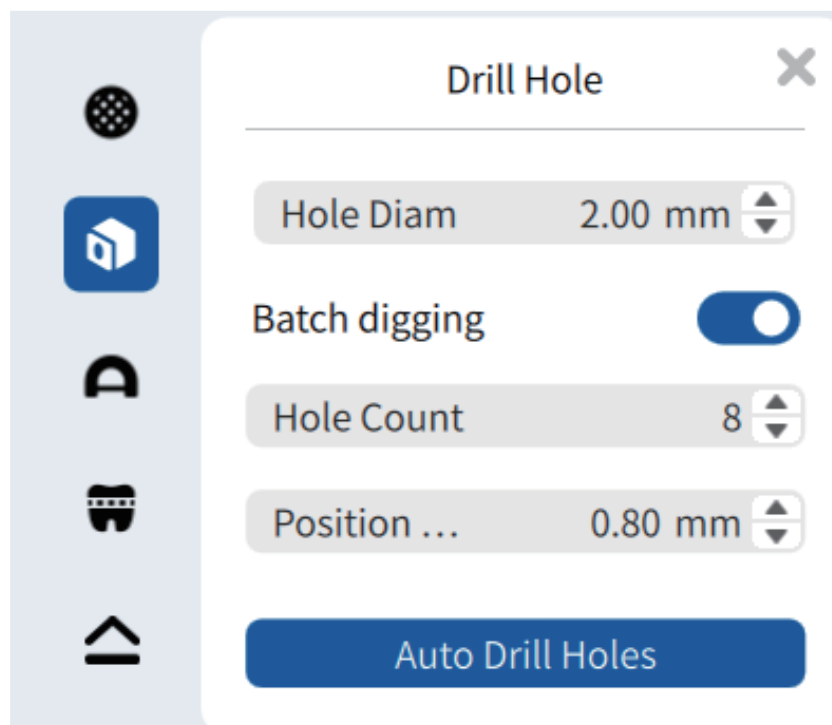

Figure 9
- ① After selecting all restorations, in the function column on the left side of the slicing software, select the "Drill Hole" function card, set the hole size, quantity, and height. The parameters can refer to Figure 9 (can be defined by yourself);